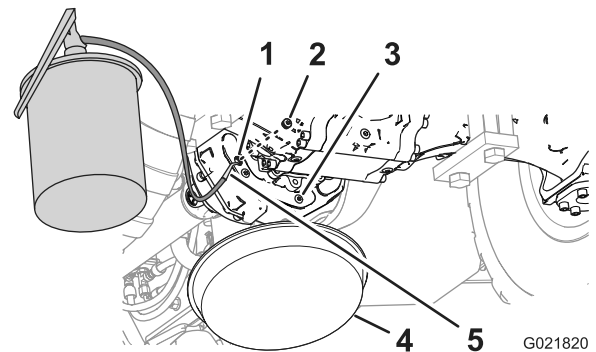

Figure 74
5. Install one of the plugs into the drain port of the transmission (Figure 74).
6. Fill the transmission with the specified oil through the sight port until the oil is level with the threads at the bottom of the port (Figure 74).
8. Install the remaining plug in the sight port of the transmission (Figure 74).